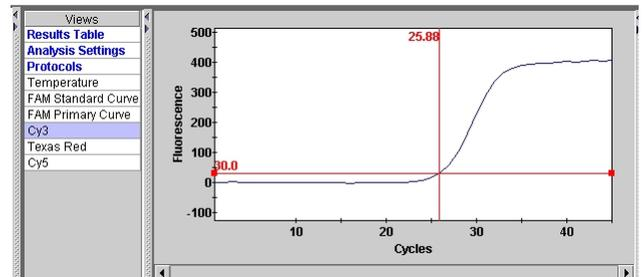

Fig.8
- Click **CY3 PRIMARY CURVE** in order to check the final fluorescence values (fig.8).